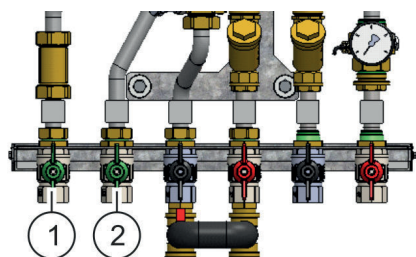

Fig. 25: Connection couplings for the water lines
1. ➔ Connect the fresh water main supply line to the cold water main supply line connection (Fig. 25/1) and tighten it by hand.
2. ➔ Connect the hot water line to the hot water distribution connection (Fig. 25/2) and tighten it by hand.